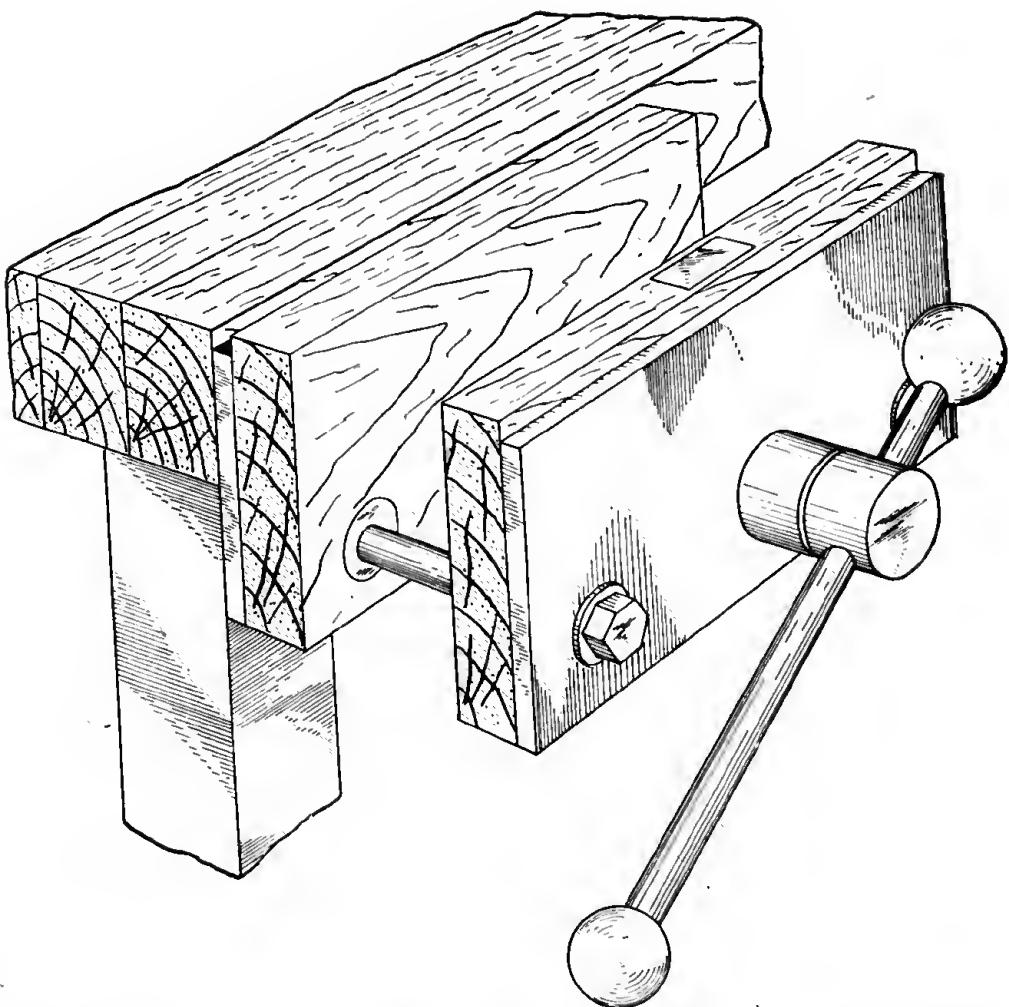

Figure 84. Woodworking vise.
c. WOODWORKING VISE. (1) A woodworking vise has hardwood jaws instead of steel jaws, to prevent marring the wood that is held in it. (See fig. 84.) Its use in a woodworking shop is the same as that of a bench vise in a metalworking shop.
(2) Often a woodworking vise has a quick-action feature in the tightening screw mechanism. When the screw handle is turned backward one-half turn or more, the screw is disengaged and the vise may then be pulled open or pushed shut. Turning the handle forward one-half turn engages the screw mechanism and the vise may then be tightened.
d. HANDSCREW. (1) The handscrew consists of two hardwood jaws